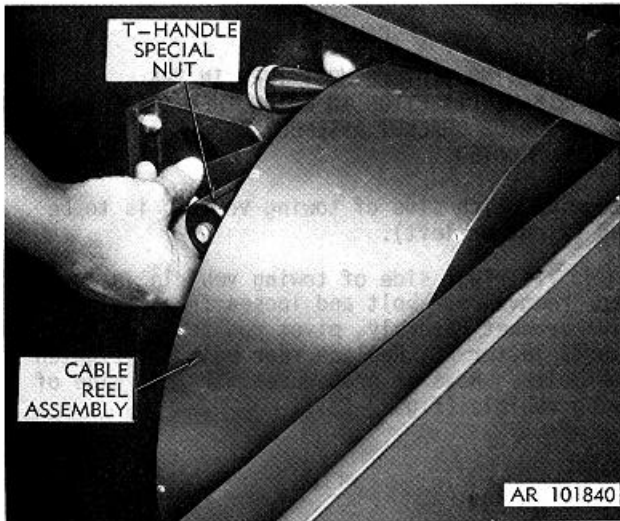

**Figure 2-6. Loosening locknut and cap screw which secure tow cable release.**
- d. Use adjustable wrench to loosen locknut on socket-head cap screw which secures tow cable release in its mounting bracket (fig. 2-6). Loosen the cap screw (pliers may be needed) and remove tow cable release (with attached tow ring) from its stowed position on floor of compartment. Put aside until required for use.